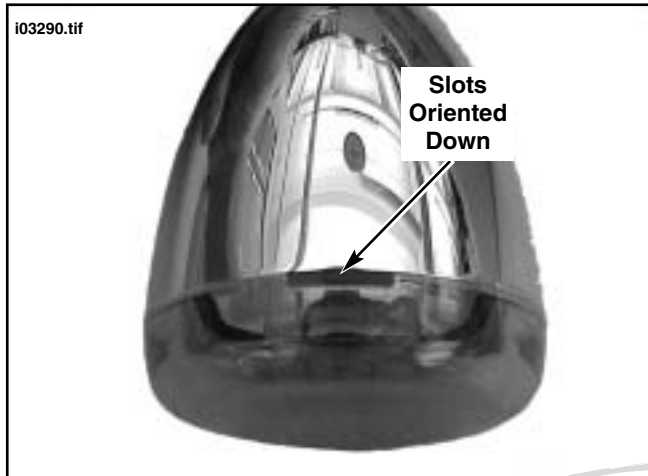

Figure 14. Install Directional Lens (Bottom View)
- c. See Figure 14. Install the directional lens with slots oriented down and in line with the O-ring slot as shown.